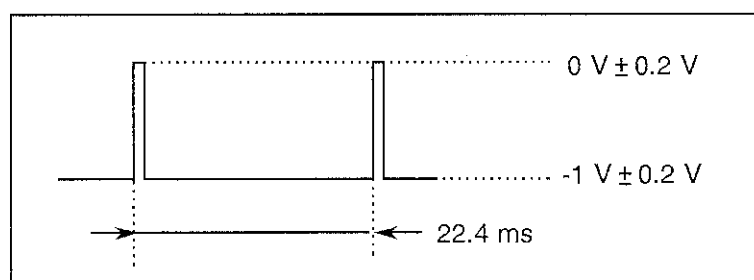

Figure 9-3 Waveform of the PATTERN TRIGGER Output Signal (PRBS, $N = 23$, $f = 12000\text{ MHz}$, 5 ms/div)
- (8) If the waveform on the oscilloscope has the period shown in Figure 9-3, the PATTERN TRIGGER signal is evaluated as normal.